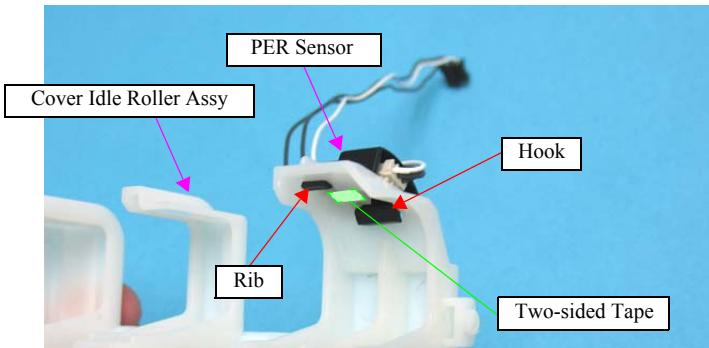

Figure 4-206. Removing the PER Sensor
- When installing the PER Sensor, insert its rib into the hole of the Cover Idle Roller Assy, and then insert the sensor's hook into the hole of the assy as shown in Figure.4-206.